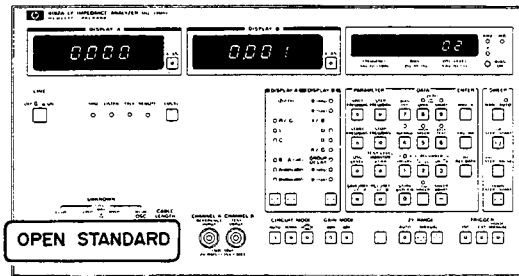

Figure 5-17. A1 Phase Tracking Adjustment Setup.
- a. Directly connect the OPEN Standard to the UNKNOWN terminals of the 4192A as shown in Figure 5-17.